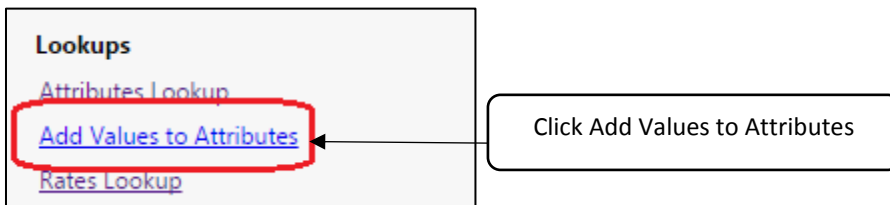

Figure 9.
- 1) Click Add Values to Attributes. See figure 9.